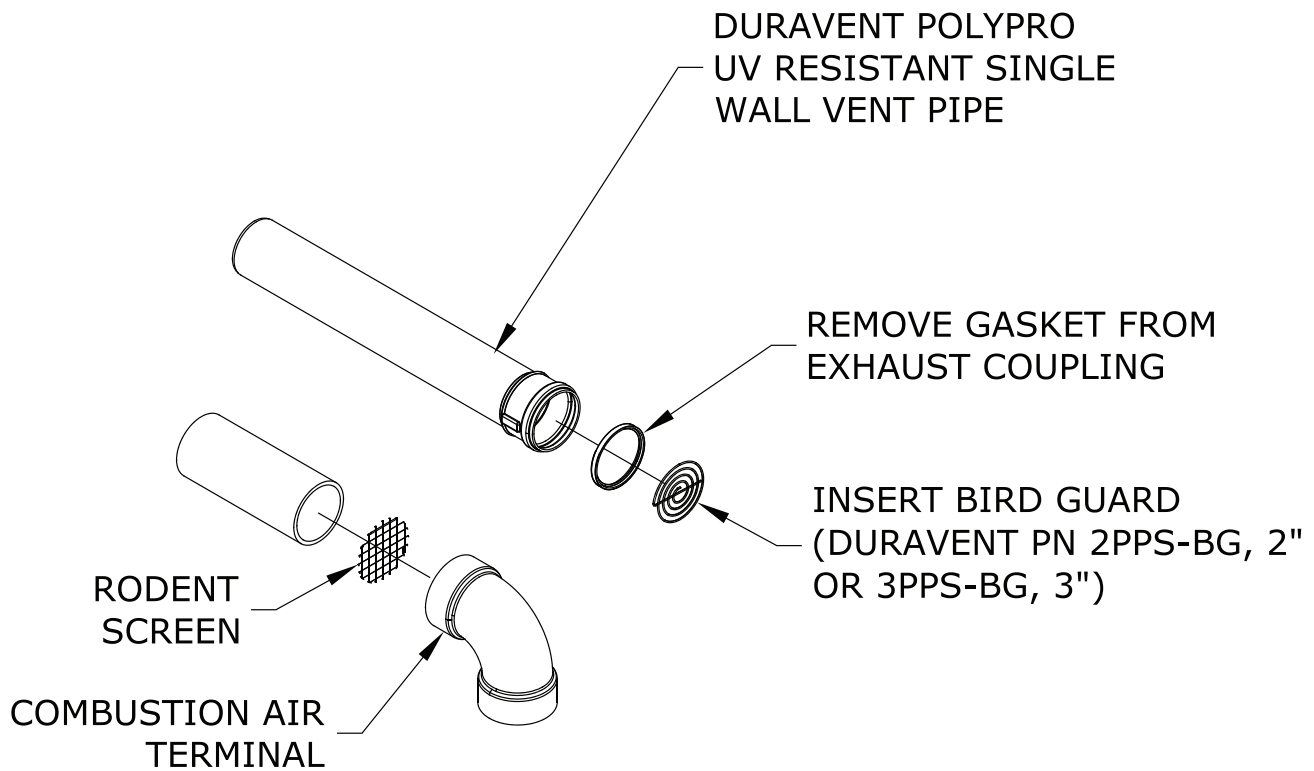

Figure 7.36: Installation of Duravent PolyPro UV Resistant Single Wall Horizontal Terminal
- a. See Figure 7.36 for proper orientation of twin pipe horizontal terminals. Outer edge of exhaust coupling must be 10" or less from the wall surface. (Figure 7.9)